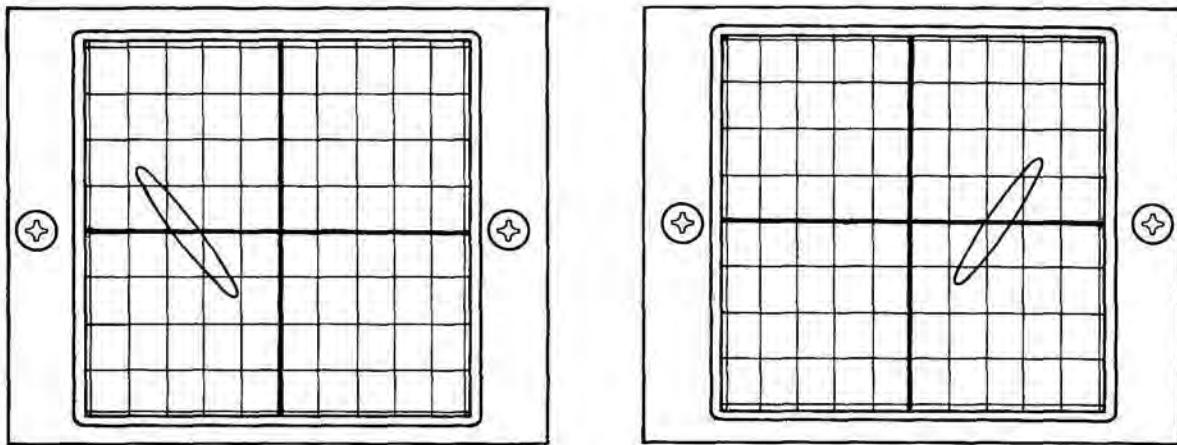

Figure 3-33 First Order Lissajou Figure
26. Set AM/FM Switch (21) to "FM" and verify that a first order Lissajou figure is displayed on CRT Display (36) as shown in Figure 3-33.